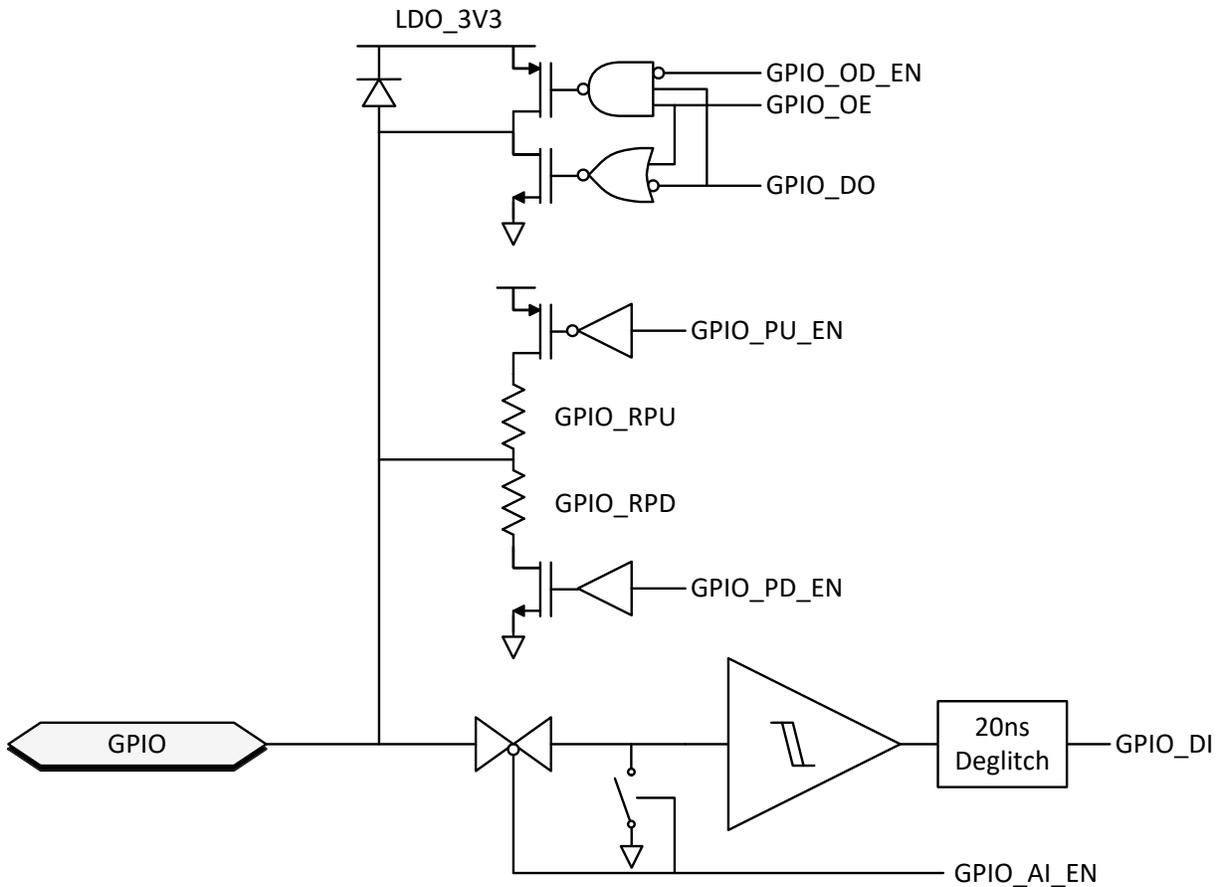

图 8-19. General GPIO Buffer
**图 8-19** shows the GPIO I/O buffer for all GPIO pins. GPIO pins can be mapped to USB Type-C, USB PD, and application-specific events to control other ICs, interrupt a host processor, or receive input from another IC. This buffer is configurable to be a push-pull output, a weak push-pull, or open drain output. When configured as an input, the signal can be a de-glitched digital input. The push-pull output is a simple CMOS output with independent pull-down control allowing open-drain connections. The weak push-pull is also a CMOS output, but with GPIO\_RPU resistance in series with the drain. The supply voltage to the output buffer is LDO\_3V3 and LDO\_1V8 to the input buffer. When interfacing with non 3.3-V I/O devices the output buffer may be configured as an open drain output and an external pull-up resistor attached to the GPIO pin. The pull-up and pull-down output drivers are independently controlled from the input and are enabled or disabled via application code in the digital core.